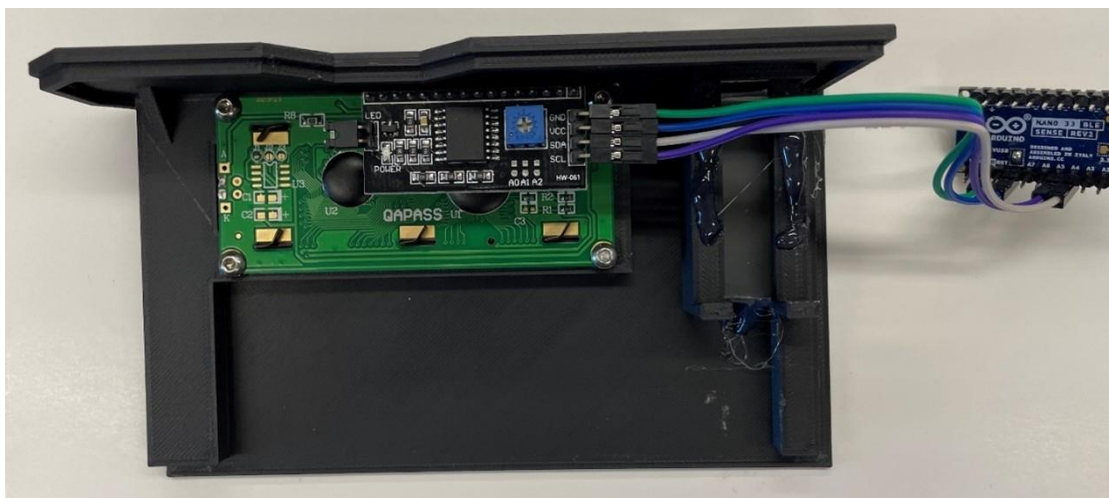

Figure 1.8- Screen connected to Arduino microcontroller.
- 7) Connect the Arduino and screen together. GND pin goes to Arduino GND, VCC connects to Arduino 5V, SDA connects to pin 4 and, SCL connects to pin 5. Hot glue can then be placed on the rails which supports the microcontroller (Figure 1.8).